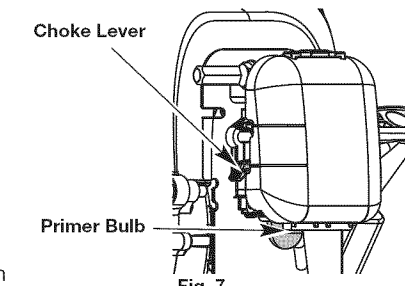
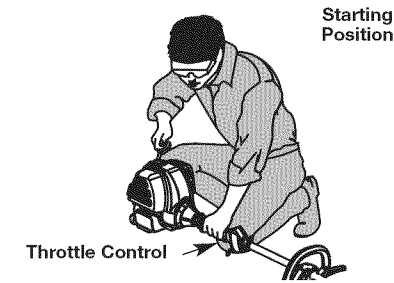

Fig. 7
Fig. 8
WARNING: Avoid accidental starting. Make sure to be in the starting position when pulling the starter rope (Fig. 8). To avoid serious injury, the operator and unit must be in a stable position while starting.
3. Fully press and release the primer bulb 10 times, slowly. Some amount of fuel should be visible in the primer bulb and fuel lines (Fig. 7). If fuel can not be seen in the bulb, press and release the bulb until fuel is visible.
4. Place the choke lever in **Position 1** (Fig. 7).
5. Crouch in the starting position (Fig. 8). Press the throttle lock-out in and squeeze the throttle control lever. Pull the starter rope 5 times.
6. Place the choke lever in **Position 2** (Fig. 7).
9. Continue squeezing the throttle control, move the choke lever to **Position 3** (Fig. 7) and continue warming the engine for an additional 60 seconds. The unit may be used during this time.
IF... the engine hesitates, return the choke lever to **Position 2** (Fig. 7) and continue warm-up.
3. Fully press and release the primer bulb 10 times, slowly. Some amount of fuel should be visible in the primer bulb (Fig. 7). If fuel cannot be seen in the bulb, press and release the bulb until fuel is visible.
4. Move the choke lever to **Position 1** (Fig. 7).
5. Crouch in the starting position (Fig. 8). Place the electric starter or power start bit into the back of the primer bulb. Refer to the Operation section of the Electric Starter or Power Start Bit operator's manual.
6. Press the throttle lock-out in and squeeze the throttle control lever. Press and hold the electric starter or drill ON (I) button for 2 seconds.
7. Move the choke lever to **Position 2** (Fig. 7).
8. Press the throttle lock-out in and squeeze the throttle control lever. Press and hold the electric starter or drill ON (I) button for 2-second intervals until the unit starts.
10. Continue squeezing the throttle control, move the choke lever to **Position 3** (Fig. 7) and run the unit for an additional 60 seconds. The unit may be used during this time.